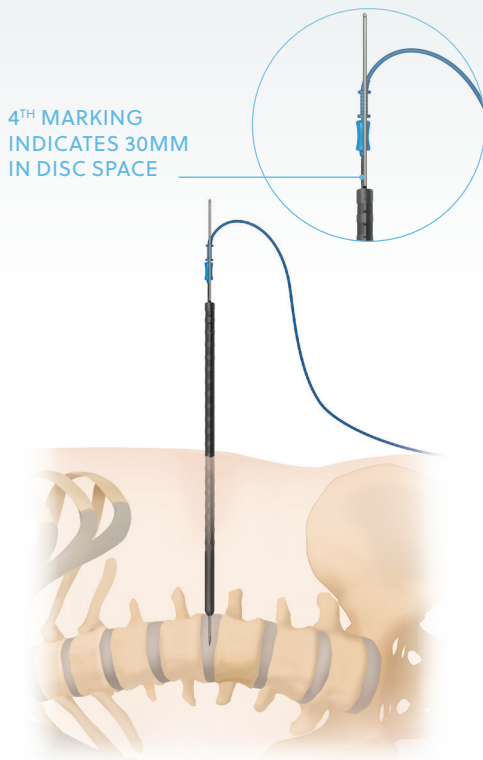

Figure 14
- Verify the position of the K-wire and initial dilator using A/P and lateral fluoroscopy (**Figure 14**).